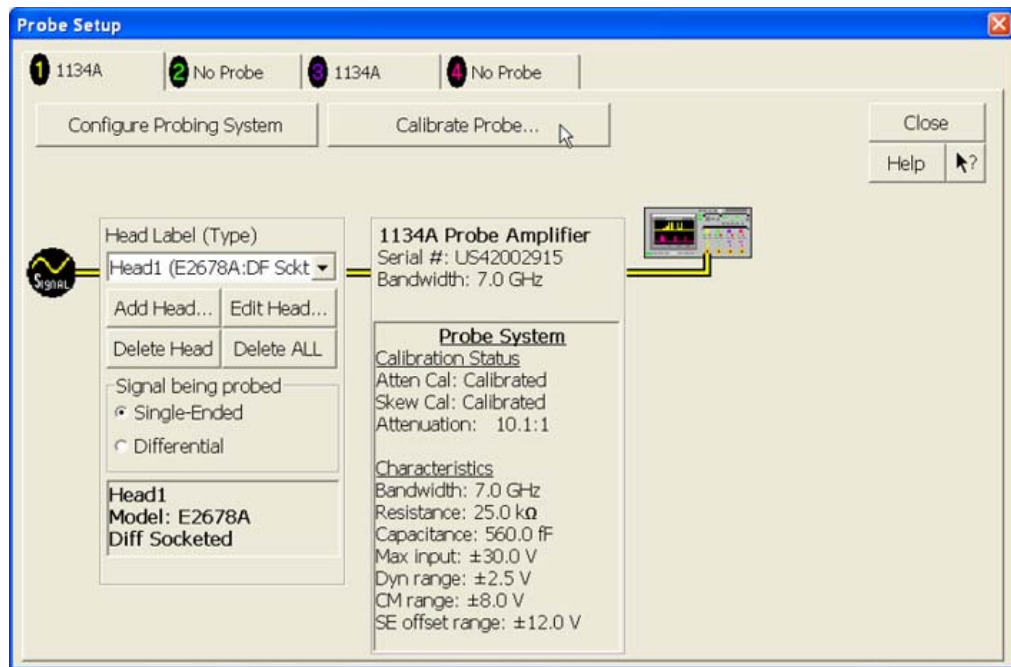

Figure 87 User Defined Probe Window.
- 3 Referring to Figure 87 below, perform the following steps: